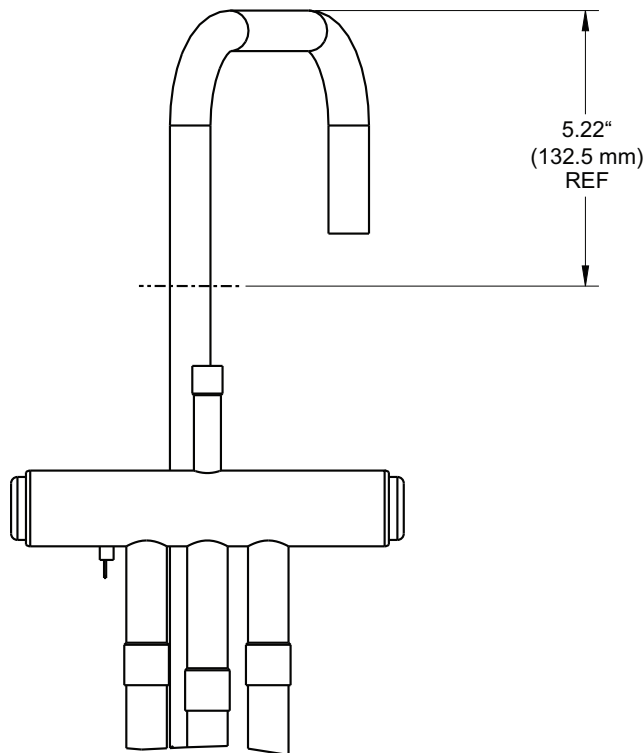

Fig. 1- Cut Point Location
3. Mark cut point using measurements in Fig. 1.